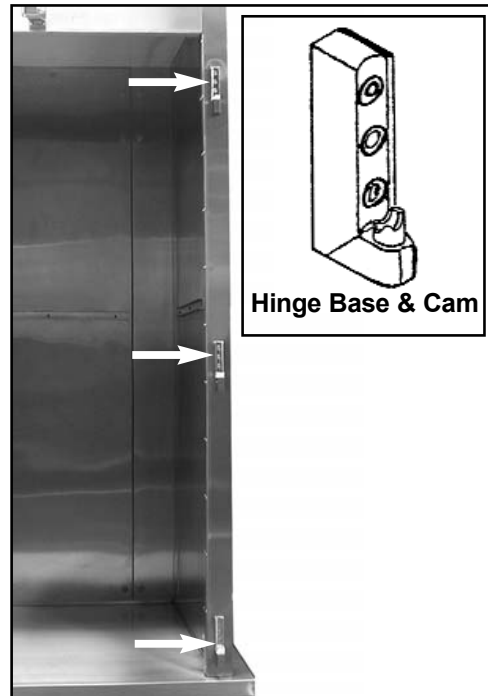

Figure 2
2. Locate three (3) Door Hinge Bases on Door Jamb. See **Figure 2**.